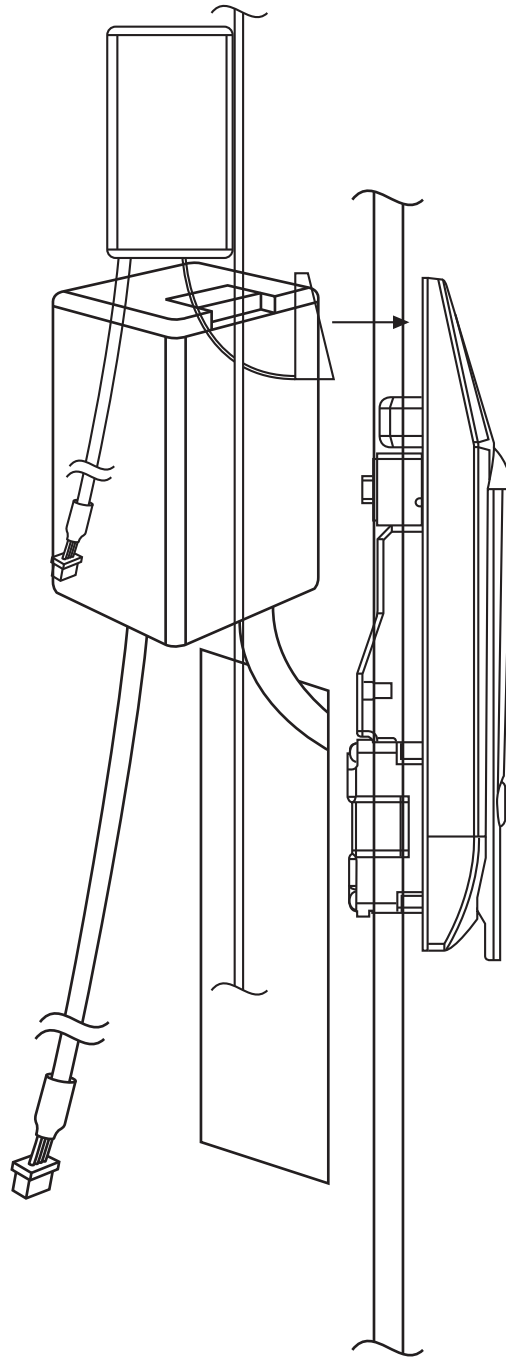

Figure 6. Attach the finger-sensor assembly into the back of the door lock.
- Attach the finger-sensor assembly into the back of the door lock as shown in Figure 6. Make sure that the angle of the finger-sensor assembly and the angle of the door lock are as shown in Figure 6.